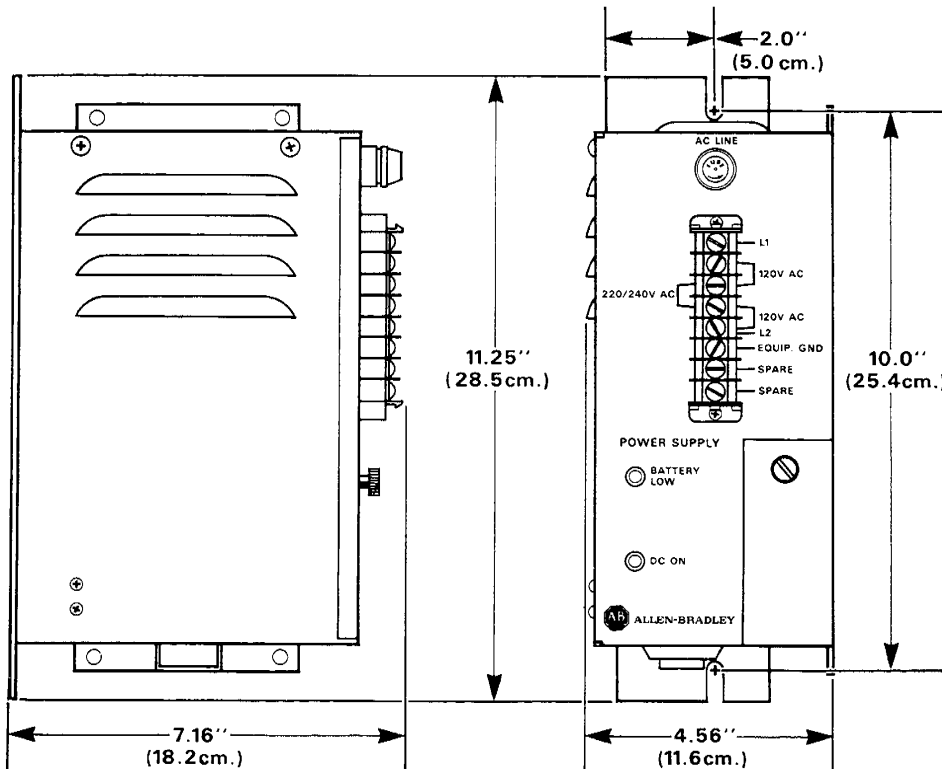

Figure 3.17 – System Power Supply Dimensions
**3.2.2 Mounting** – Mini-PLC-2 controller components are designed for back panel mounting using either 1/4-inch bolts or welded studs. Mounting procedures for the installer are given in this Paragraph. Dimensions for the different Chassis sizes and configurations are given in Figures 3.17 thru 3.19.